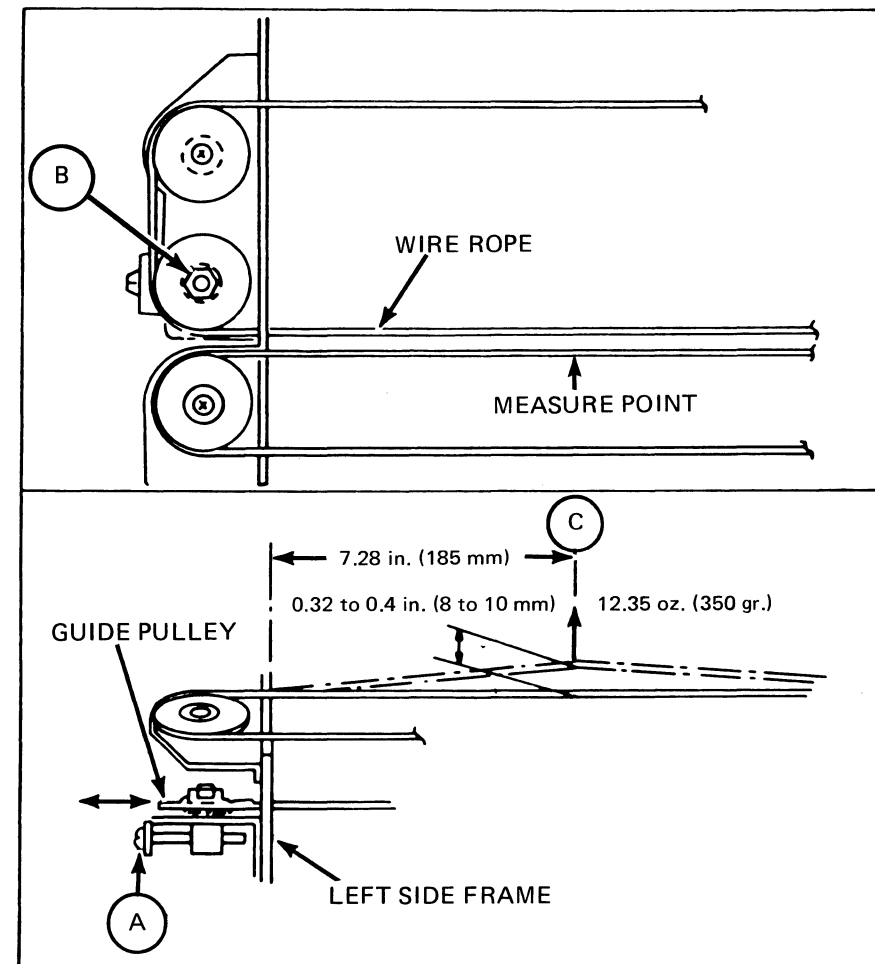

Figure 5-15 Wire Rope Adjustment
- a. Loosen nut B (see Figure 5-15) on the left side guide pulley.